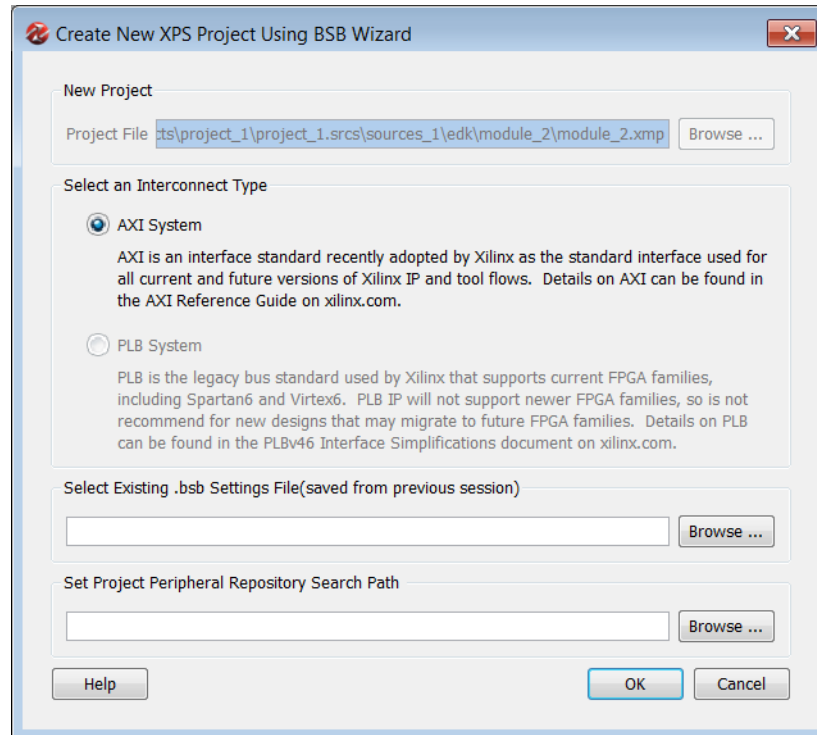

Figure 3-22: Base System Builder Wizard
2. In the Base System Builder (BSB) wizard (Figure 3-22), specify the following options, and click **OK**.